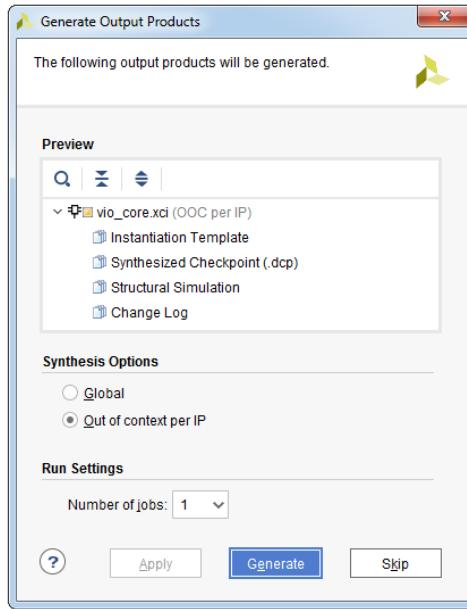

Figure 11.7: Generate Output Products window for VIO core
9. In the **Generate Output Products** window click **Generate**, see Figure 11.7.